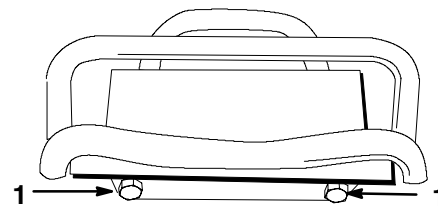

Figure 24
3. If the traction unit veers to the **left**, loosen the the **right** jam nut and adjust the tracking set screw on the front of the traction control (Fig. 24).
4. If the traction unit veers to the **right**, loosen the the **left** jam nut and adjust the tracking set screw on the front of the traction control (Fig. 24).